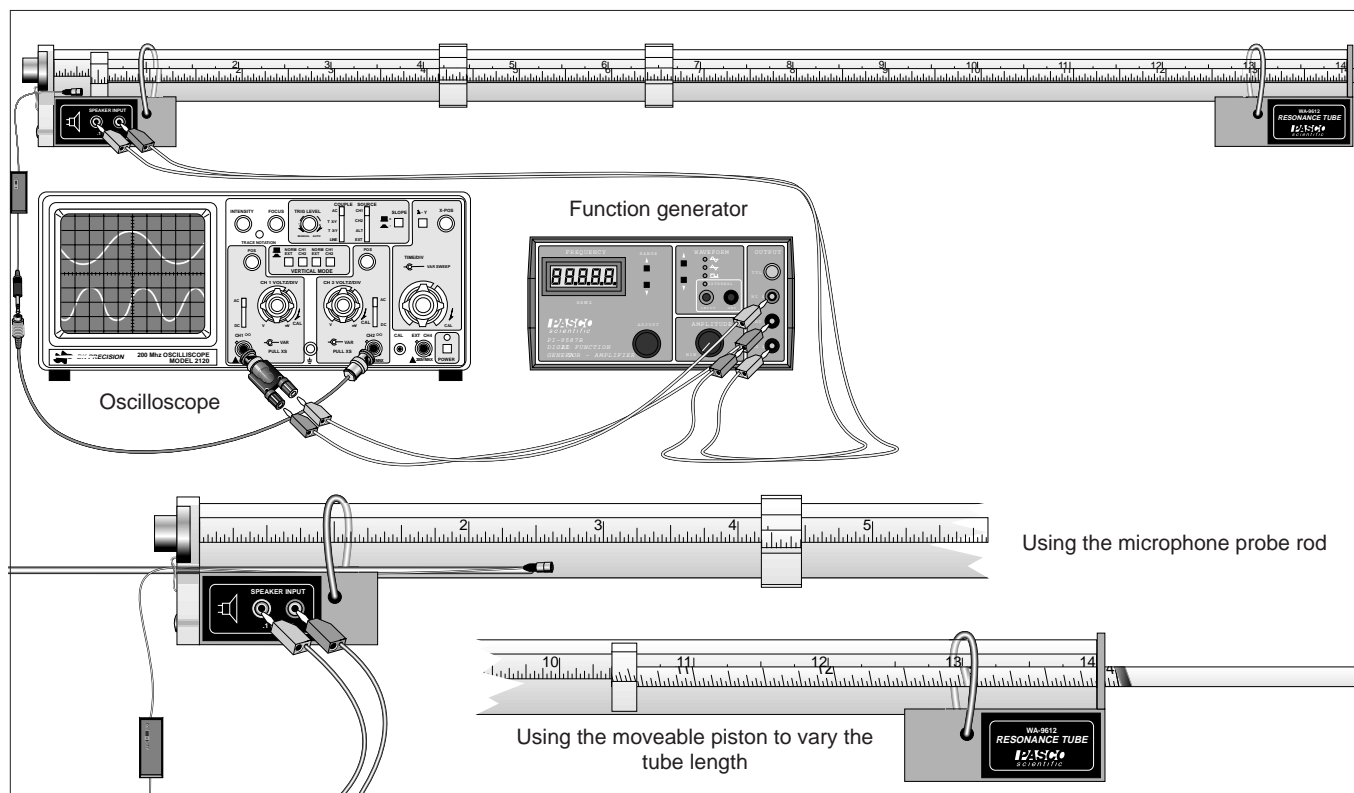

Figure 2 Equipment Setup
## To set up the Resonance Tube (see Figure 2):
- ① Set up the equipment as shown in Figure 2. The microphone can be mounted in the microphone hole below the speaker, or, as shown in the lower insert, it can be taped to the end of the microphone probe rod and inserted through the mounting hole so that nodes and antinodes can be located within the tube. You can also vary the effective tube length by inserting the moveable piston as shown in the upper insert. The end of the piston rod that is outside the tube should be supported to avoid putting excessive strain on the piston.
- ② Set the frequency of the function generator to approximately 100 Hz, and the amplitude to zero, then turn it on. Slowly raise the amplitude until you hear a sound from the speaker.
- ③ Turn on the oscilloscope and switch on the battery powered amplifier. Set the sweep speed to approximately match the frequency of the signal generator and set the gain until you can clearly see the signal from the microphone. If you can't see the microphone signal, even at maximum gain, adjust the frequency of the signal generator until the sound from the speaker is a maximum. Then raise the amplitude of the signal generator until you can see the signal clearly on the oscilloscope.
- ④ You can now find resonant modes by adjusting the frequency of the sound waves or the length of the tube, and listening for a maximum sound and/or watching for a maximum signal on the oscilloscope.